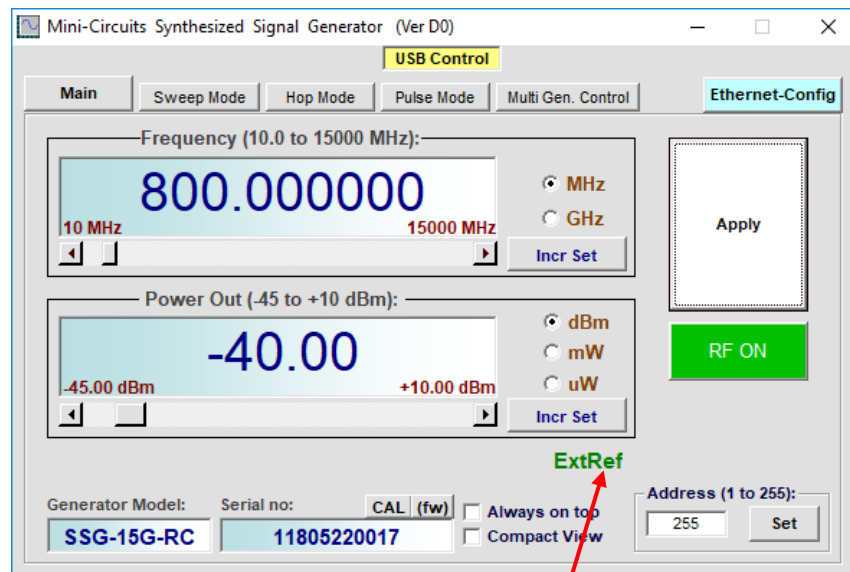

Figure 3.12.2: External Reference mode
3.12.2 **When using external** reference, an **ExtRef** notice appears in green letters below the right hand corner of the Power Out readout (See **Fig. 3.12.2**). This will happen automatically whenever a signal of sufficient strength is connected to the REF IN port. If the alert flickers, or the RF output signal is excessively noisy, check the connections to the source of the reference signal and ensure the signal strength at the generator REF IN port is greater than the minimum signal strength noted in the datasheet for the model.